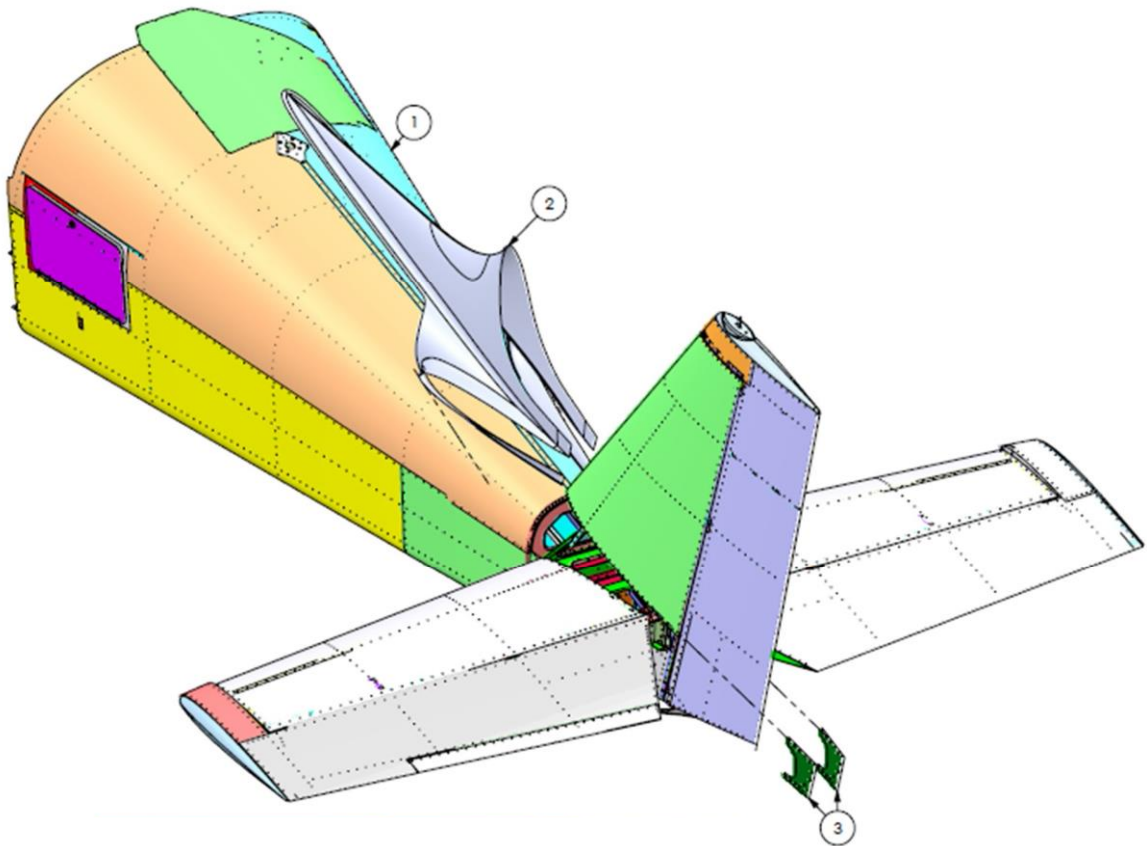
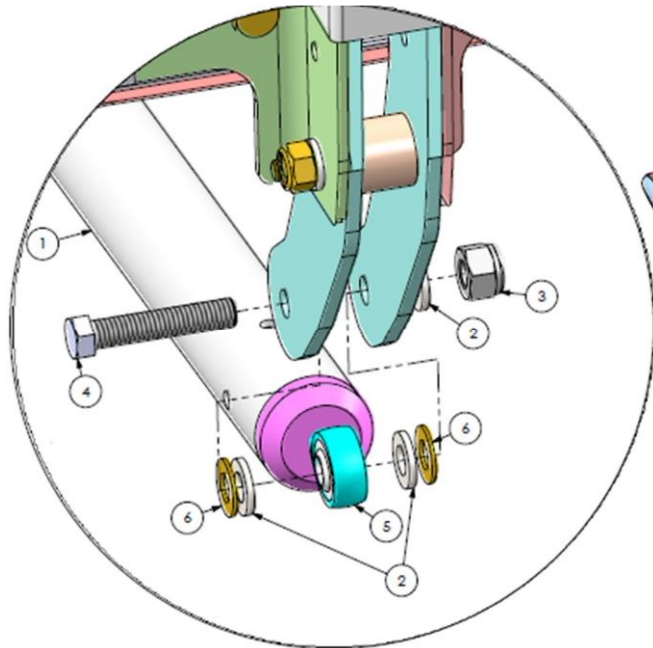

Figure 30: Fairing removal
Figure 31: Detail G, exploded view
- Step 14. To access this, you will need to remove the fairings (2) & (3) in Figure 30. The eyebolt shown in Figure 31 can be accessed without removing the tail.
Step 15. Remove the AN4 locknut (3) and bolt (4), shown in Figure 31.
Step 16. Replace the eyebolt (5) with either a *type 1* or *type 2*.
- Step 17. Reassemble the eyebolt assembly as seen in Figure 31.